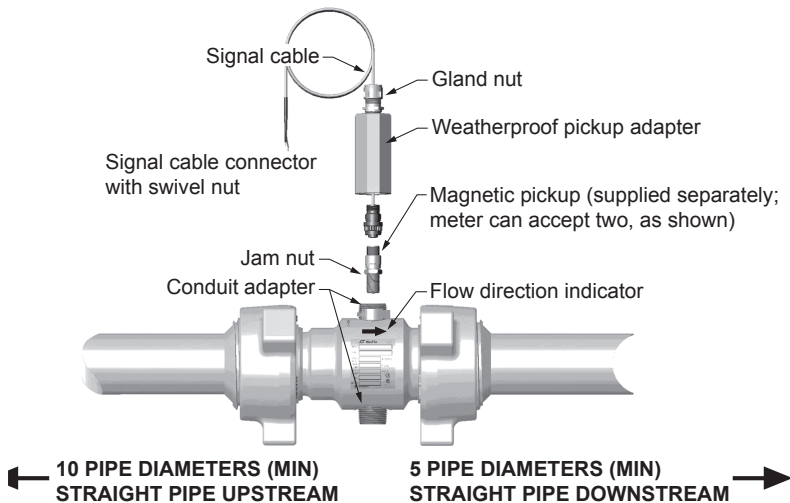

Figure 5—General flowmeter installation diagram
3. Install the magnetic pickup (Figure 5 page 5) as follows: